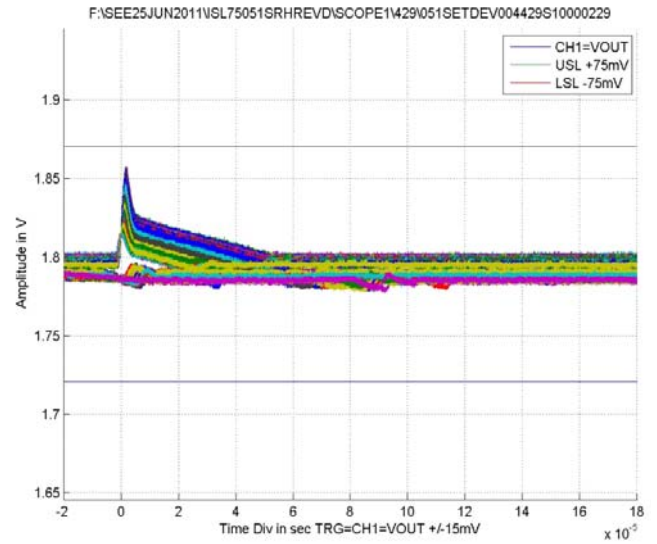

FIGURE 4. TYPICAL CAPTURE AT $V_{IN} = 2.2V$, RUN 429 (Note 8)
8. The horizontal axis time per division is 10 μ s except for Figures 4, 8, 12, 16, 20, and 24, which are at 20 μ s per division.